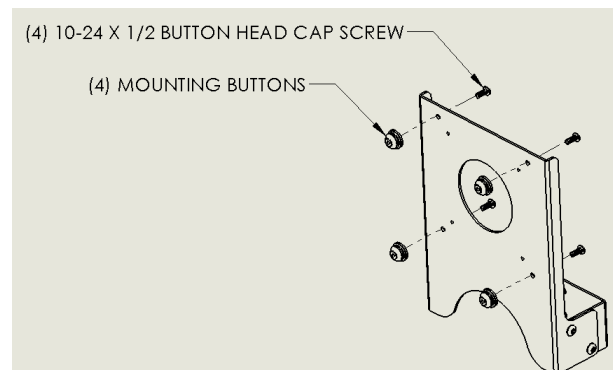

Figure 3
- Mounting Button Installation:** Install four Mounting Buttons using four #10-24 x 1/2" Phillips pan head screws (see Figure 3).